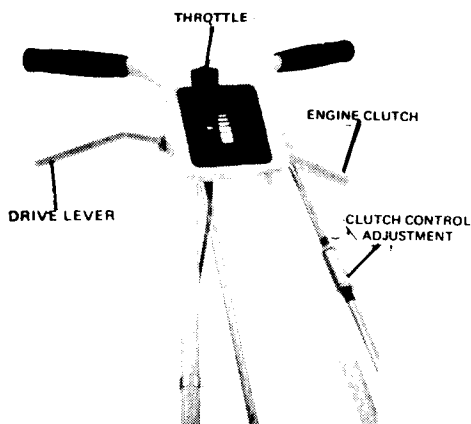

FIGURE 1
1. Use 6, 1/4" bolts and nuts connecting upper handle to handle support. Do not tighten. (See Fig. 1 & 2)
3. Check belt tension by squeezing lever if tension is too tight or too loose on belt or lever. Then adjust rod length at the belt tension tightener (Figure 1). Caution: Do not overtighten tension on belt as it will reduce the belt life.
6. Slip on handle grips as shown. (Fig. 1) (Soaking in hot water may ease assembly.)